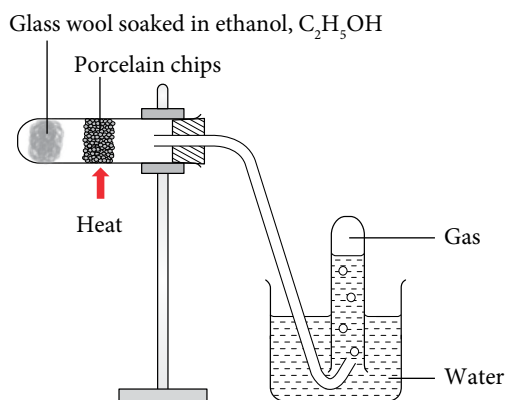

Figure 2.14
- Place the porcelain chips in the middle of the boiling tube as shown in Figure 2.14.
- Collect two test tubes of the gas released, as shown in Figure 2.14.